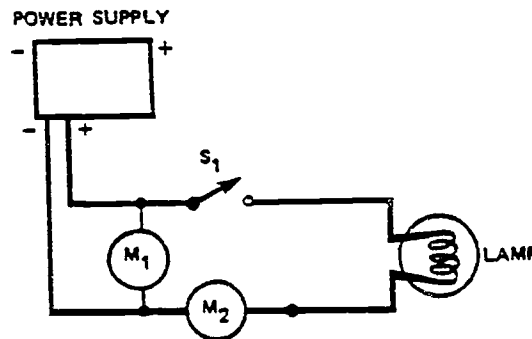

Figure 1. Demonstration setup.
1. Set up the demonstration equipment, as shown by the schematic in Figure 1.